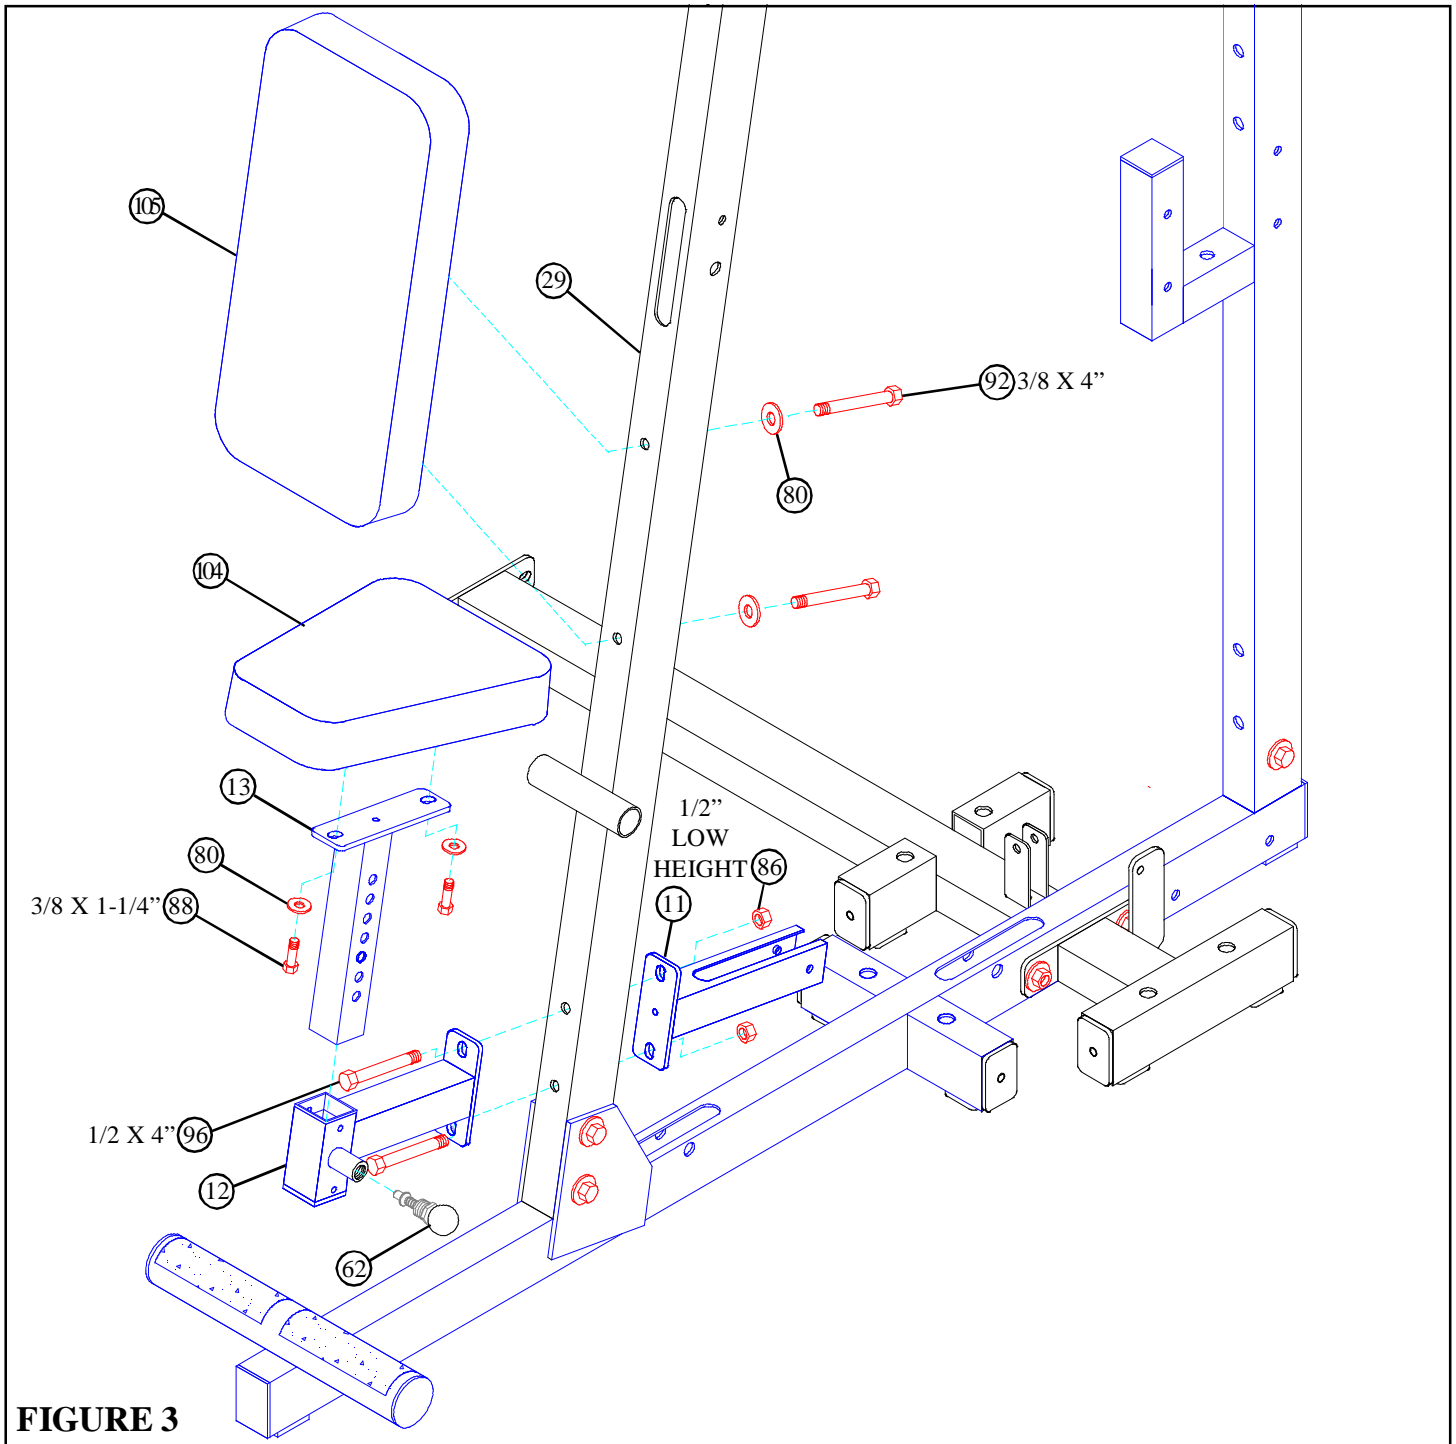

**FIGURE 2**
- **LOOSELY** assemble the FRONT UPRIGHT (29) to the BASE (25) using two 1/2 X 3-1/4" BOLTS (95) and two 1/2" LOCK NUTS (85) as shown in FIGURE 2.
- **LOOSELY** assemble the REAR UPRIGHT (1) to the BASE (25) using one 1/2 X 3" BOLT (94), two 1/2" WASHERS (84), and one 1/2" LOCK NUT (85) as shown in FIGURE 2.
- **LOOSELY** assemble the TOP BOOM (30) to the REAR UPRIGHT (1) using two 1/2 X 4" BOLTS (96), two 1/2" WASHERS (84), and one 1/2" LOCK NUT (85) as shown in FIGURE 2.
- **LOOSELY** assemble the TOP BOOM (30) to the FRONT UPRIGHT (29) using two 1/2 X 3-1/4" BOLTS (95) and two 1/2" LOCK NUTS (85) as shown in FIGURE 2.